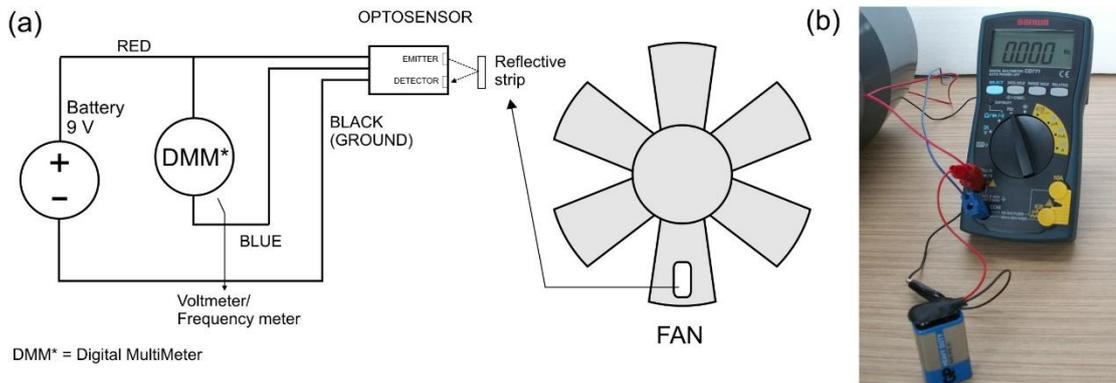

Figure 4. Opto-sensor output connection to the DMM#1 that works as voltmeter or frequency meter.
Measuring the rotation speed of the motor or wind turbine is important in wind power engineering. We will use a simple optoelectronic-sensor circuit as shown below to measure the rotation frequency of the motor. The opto-sensor consists of a pair of infrared light emitter and detector that will detect a reflective strip on the motor as the motor rotates (Figure 4).
- (a) Connect the opto-sensor circuit as shown in Figure 4.